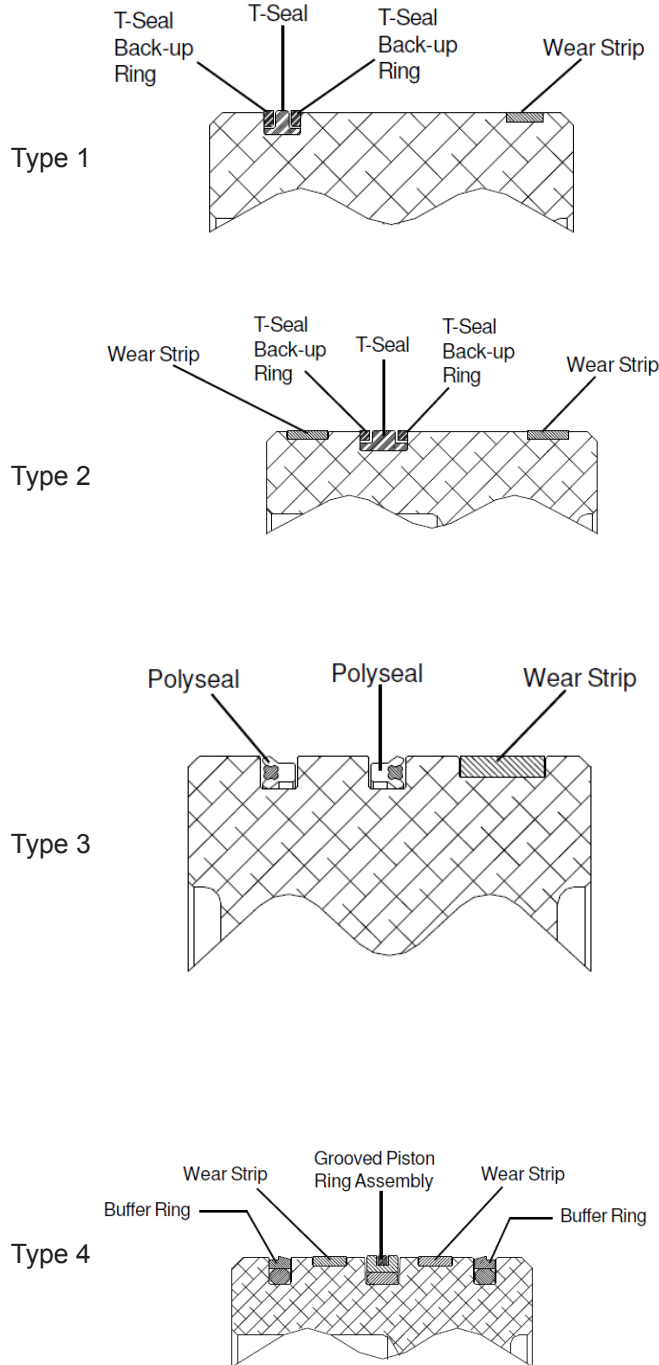

Figure 4 - Piston Sealing Arrangements
2. Lubricate each piston seal and install the seals onto the piston. Reference Figure 4 for the different sealing arrangements. Position the seals accordingly (Helpful hint: coat wear ring(s) with a system compatible grease to hold it / them in place.).